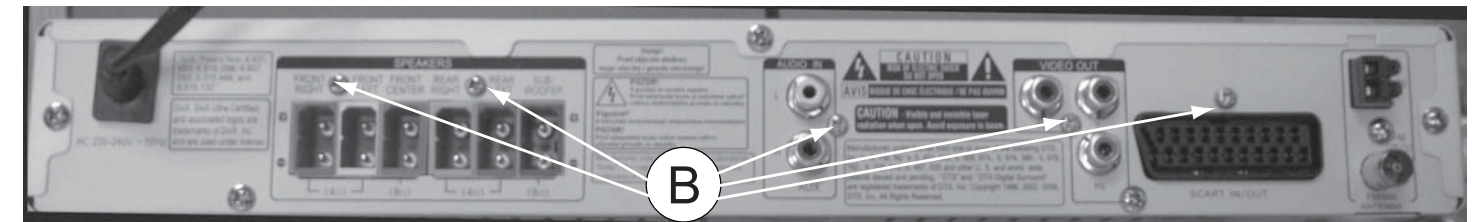

Figure 5
- 2) Loosen 5 screw "B" at the back panel as shown in figure 5.